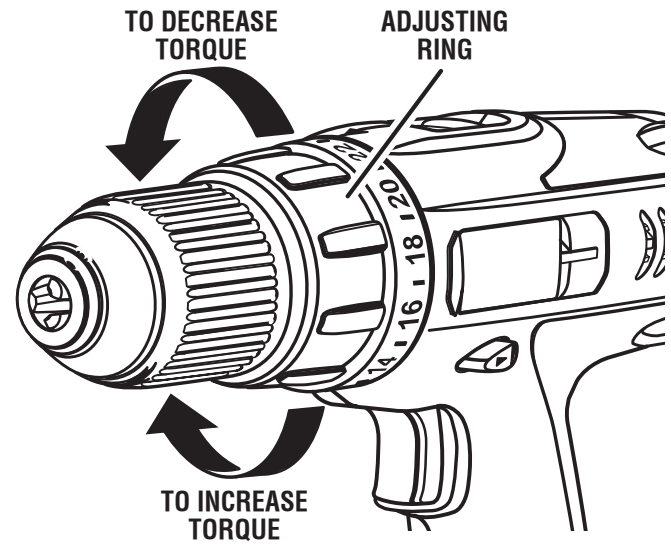

Fig. 10
- Identify the twenty four torque indicator settings located on the front of the drill. See Figure 10.